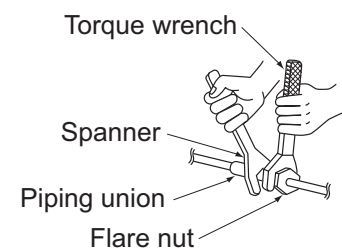

Fig. 14
- Be sure to use both a spanner and a torque wrench together as shown in the drawing, when connecting or disconnecting pipes to/from the unit. (Refer to Fig. 14)